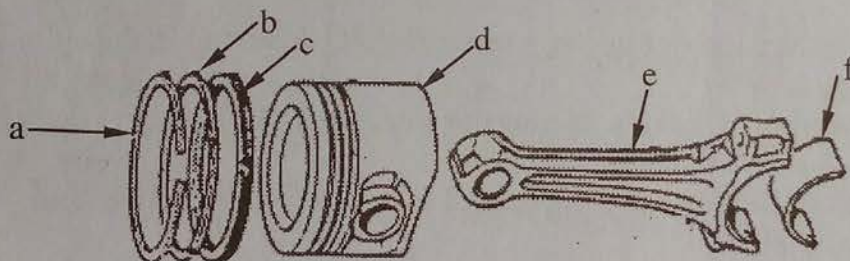

Figure 1
6. Figure 1 shows some components of a motor car engine. Name the parts indicated by the letters a, b, c, d, e and f.